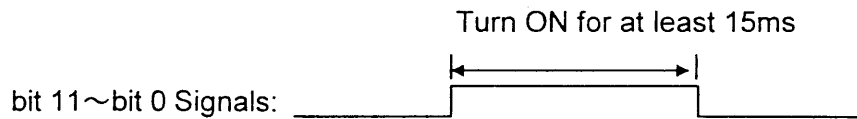

Figure 3-1-4 Write Input Timing (when a binary data write input switch is not used)
(6) Figure 3-1-4 shows a diagram of binary data write input timing.